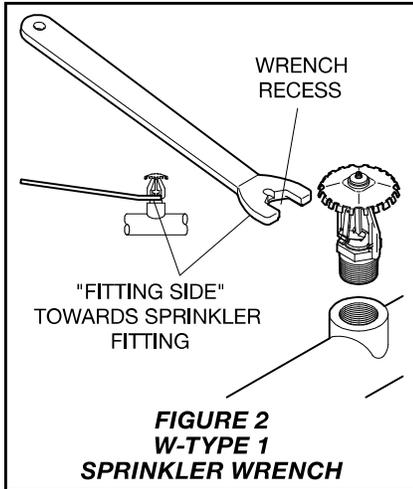

FIGURE 2
Step 2. Wrench-tighten the Model EC-25 Upright Sprinkler using only the W-Type 1 Sprinkler Wrench, see Figure 2, and by fully engaging (seating) the wrench on the sprinkler wrench flats.